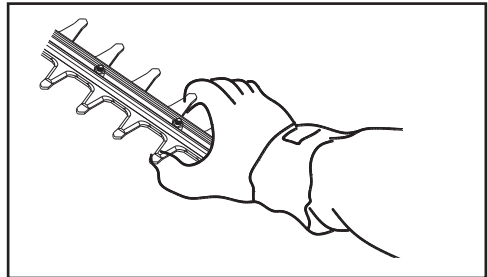

Fig. 8
- Always wear heavy-duty gloves when repairing the cutting attachment. This is extremely sharp and can easily cause cuts. (see Fig. 8)